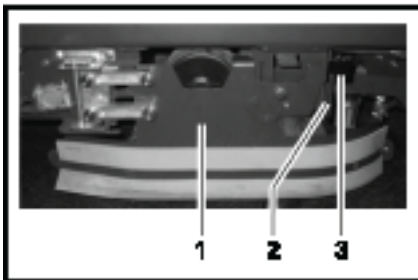

Fig 4
1. Open the deflector (Fig. 4/1): take hold of the grip (Fig. 4/3), raise the deflector (Fig. 4/1), pivot open towards the front and set it down (service position).
11. Close the deflector (Fig. 4/1):
Take hold of the grip (Fig. 4/3), raise the deflector (Fig. 4/1), pivot to the device and lower into the deflector lock (Fig. 4/2). The deflector (Fig. 4/1) is now in its working position.